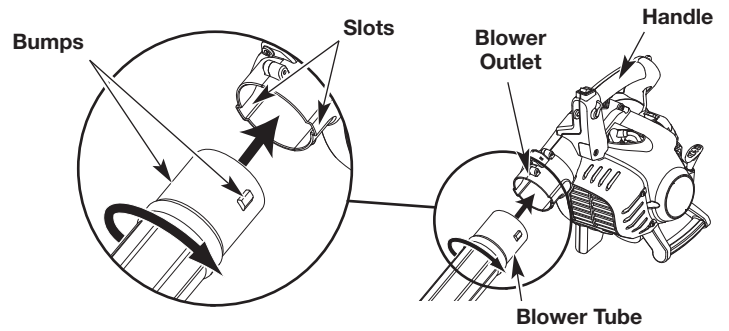

Fig. 1
1. Align the bumps on the upper end of the blower tube with the slots on the blower outlet (Fig. 1).
2. Insert the blower tube into the blower outlet (Fig. 1).
3. While holding the handle, twist the blower tube clockwise until it locks into place (Fig. 1).